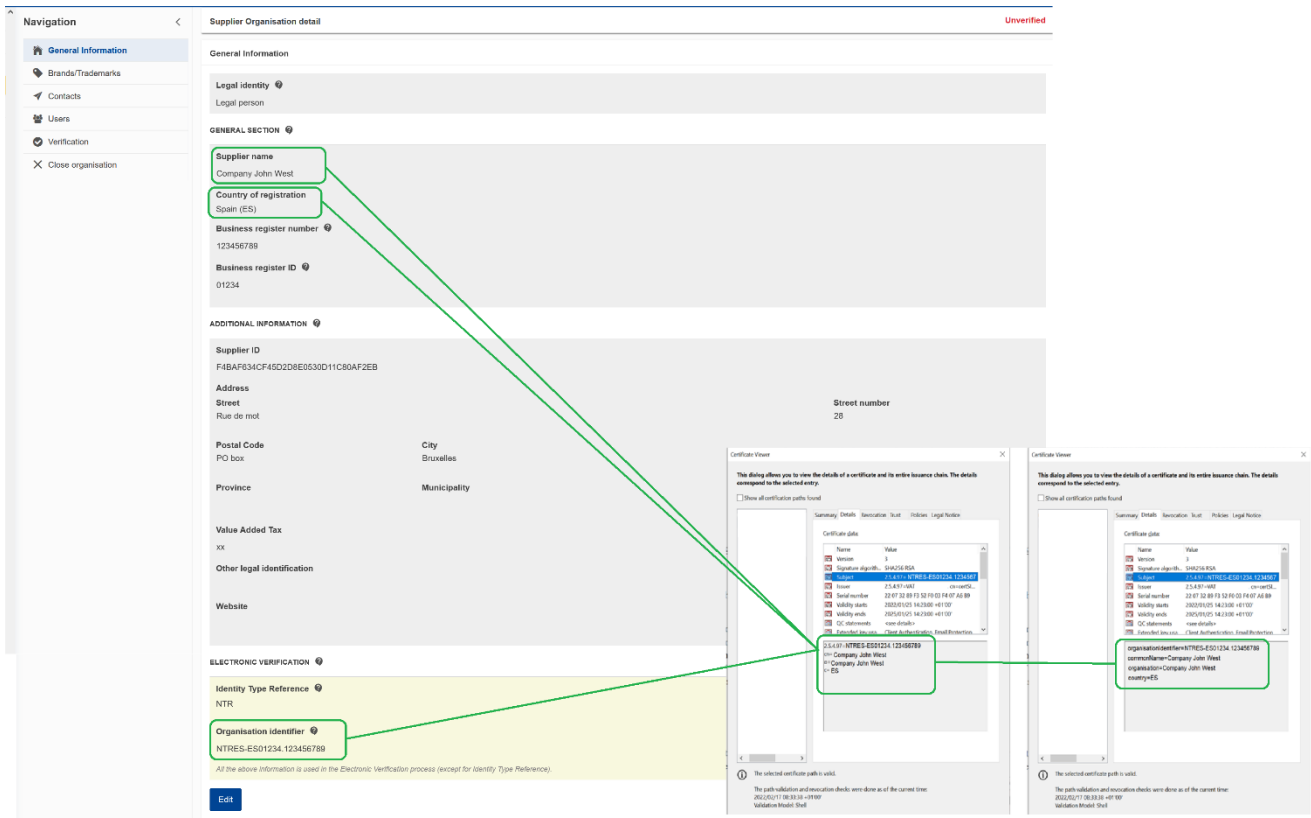

Figure 36 - Show signature parameters
**Step 3** – once you opened the signature properties, you need to see the metadata of your certificate, by clicking on “Show Signer’s Certificate”, (Figure 36 - Show signature parameters)